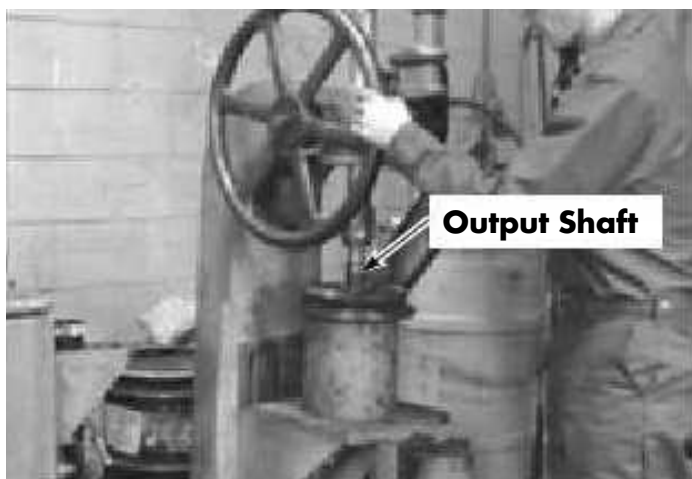

Figure 7-107. Bevel Gear Removal
10. To remove the bevel gear, support the main cover assembly on an 8 in. x 6 in. tube under press. Press the output shaft down through the bevel gear. The bearing cone is removed at the same time. See Figure 7-107.